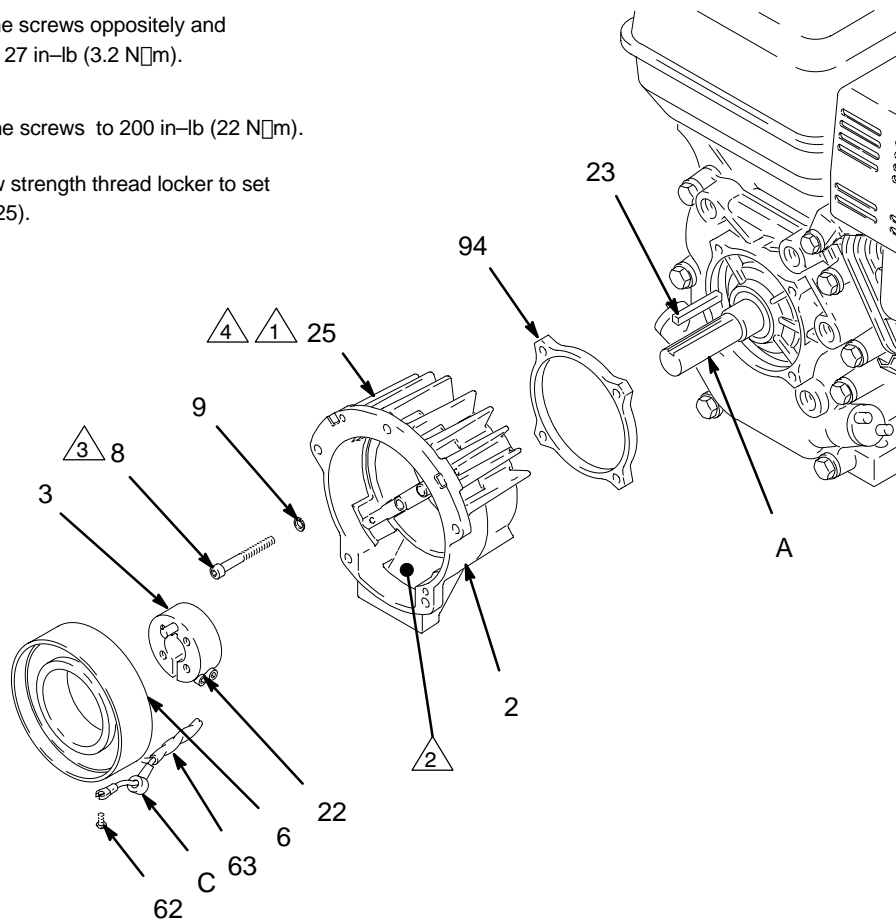

Fig. 20
1. Install spacer (94) between the engine and the clutch housing (2).
2. Install the **clutch housing (2)**, capscrews (8) and lockwashers (9) on the engine.
3. Install the engine shaft **key (23)**. See Fig. 20.
5. Connect the wires of the harness (63) with the screws (62) in both places on the field (wires can be attached to either connection). Pull the plastic caps (C) up and snap them over the screws. Install the field in the clutch housing. Push the wire harness through the slot in the clutch housing. Align the setscrew holes in the field and the clutch housing (2). Use a feeler gage to center the field (6) by measuring the gap between the four housing bosses where the set screws pass through the housing and the field. Adjust the set screws to provide even clearance. Then tighten the set-screws (25) oppositely and evenly, to 27 in-lb (3.2 N.m). See Fig. 20.
- 4 ⚠ Apply low strength thread locker to set screws (25).